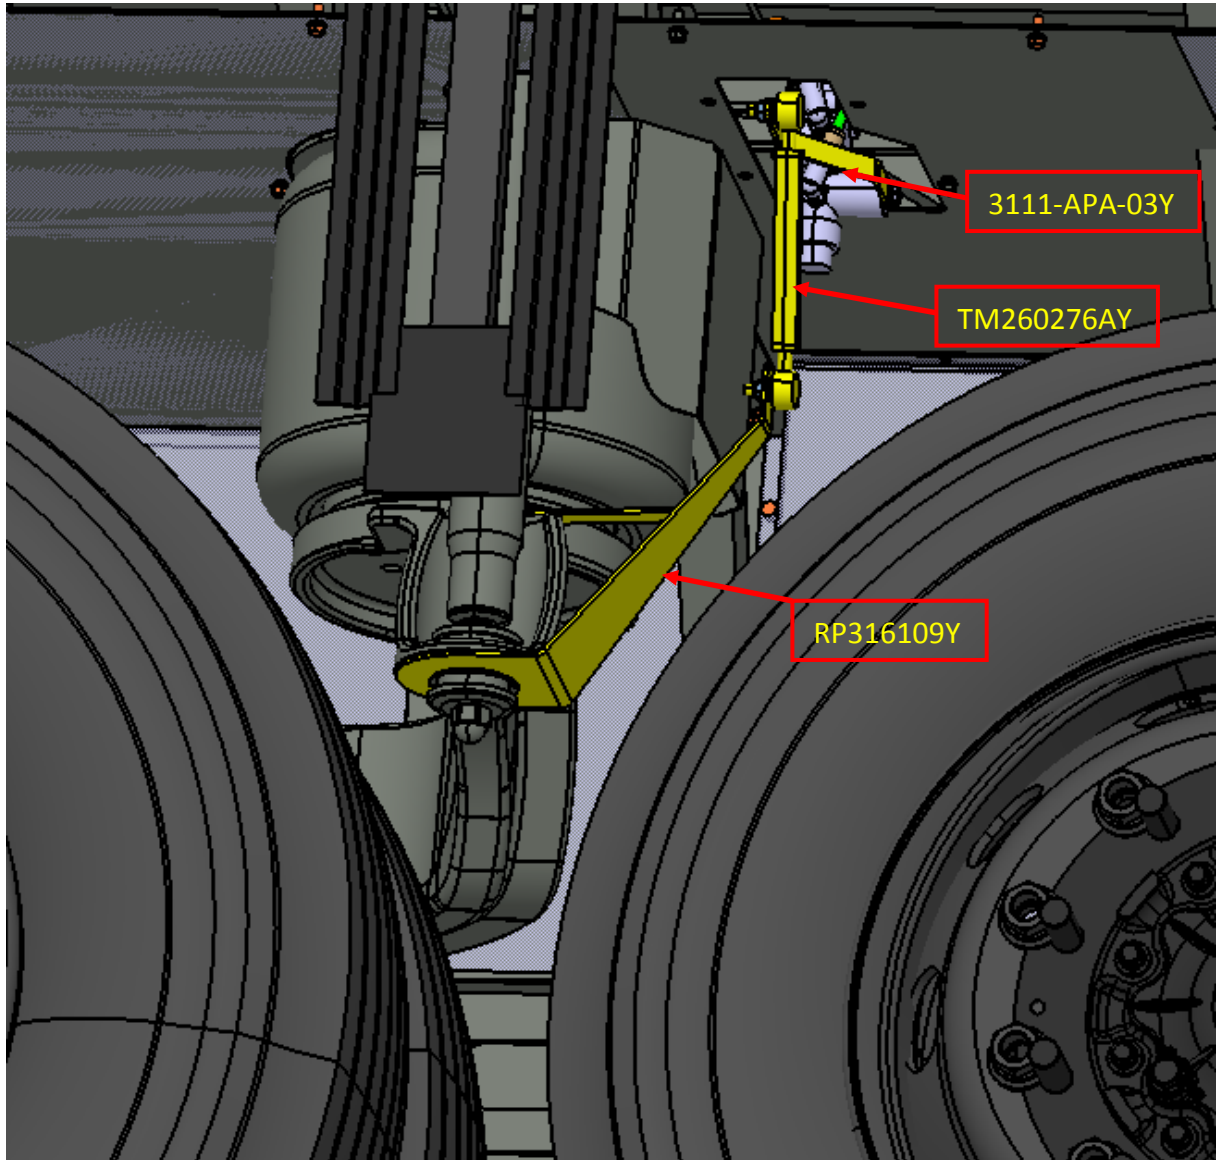

Figure-3
Step 3: Remove the leveling valve arm, leveling rod and leveling bracket shown in Figure-3